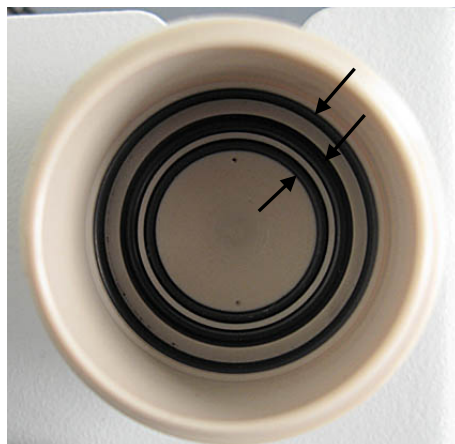

Fig. 18: O-rings in the pH flow cell
1. Loosen the lock nut of the dummy electrode and remove the dummy electrode from the flow cell. Check that the o-rings (→ Fig. 18) are still in their place, and push them back into their grooves (using gloves) if necessary. (A set of replacement o-rings is available under part no. 6082.2035.)